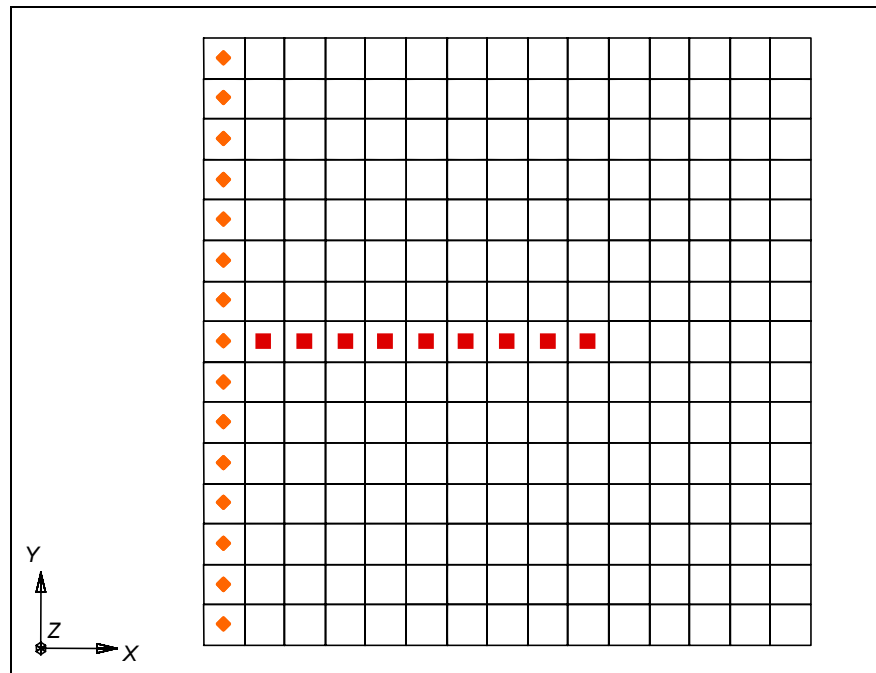

Figure 2-2 Cells to be Selected.
4. Hold down the *Shift* key to invoke the multi-select mode and select the cells on columns 3-10 of the same row as the cell you have already selected (Figure 2-2).